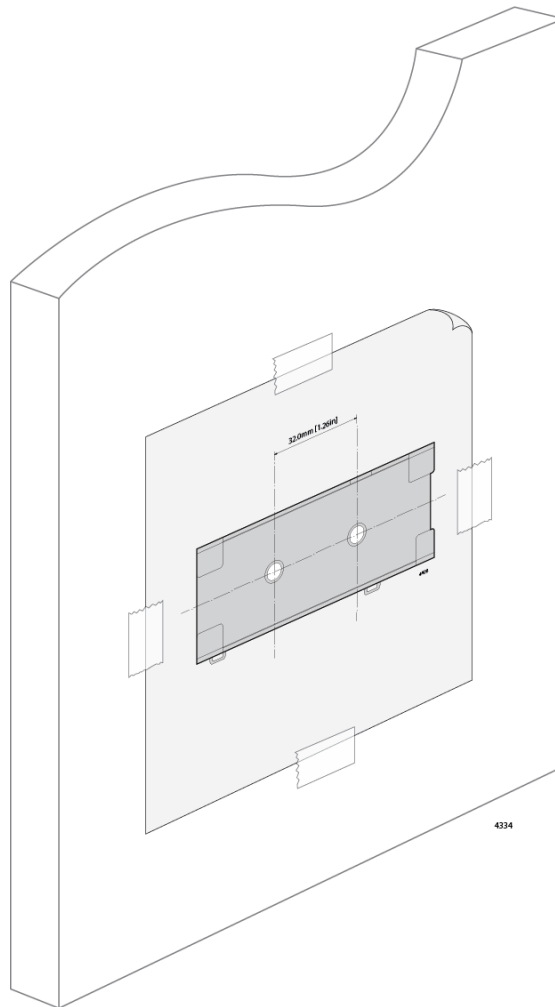

Figure 20. Placing the Template on the Wall
3. Use scotch tape to attach the template on the wall as shown in Figure 20.
3. Use scotch tape to attach the template on the wall as shown in Figure 20 on page 41.